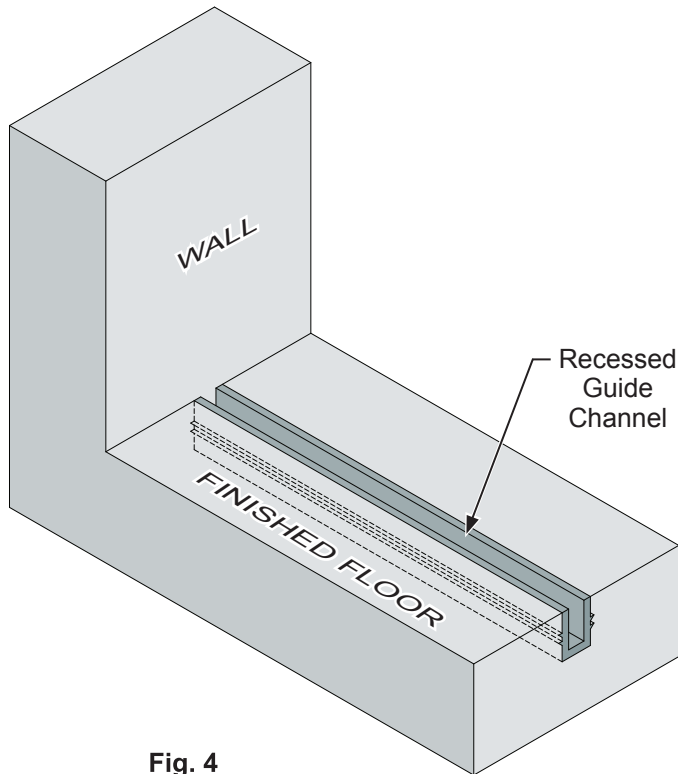

Fig. 4
1. The guide channel is set into the floor and is positioned directly under the center of the top track. **(Fig. 4)**